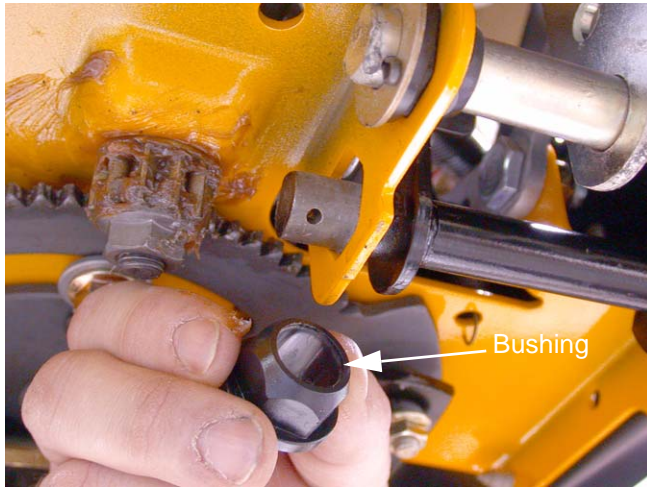

Figure 20.4
20.4. The inboard brake pedal shaft bushing can be removed by removing the cotter pin and washer that secure it. See Figure 20.4.